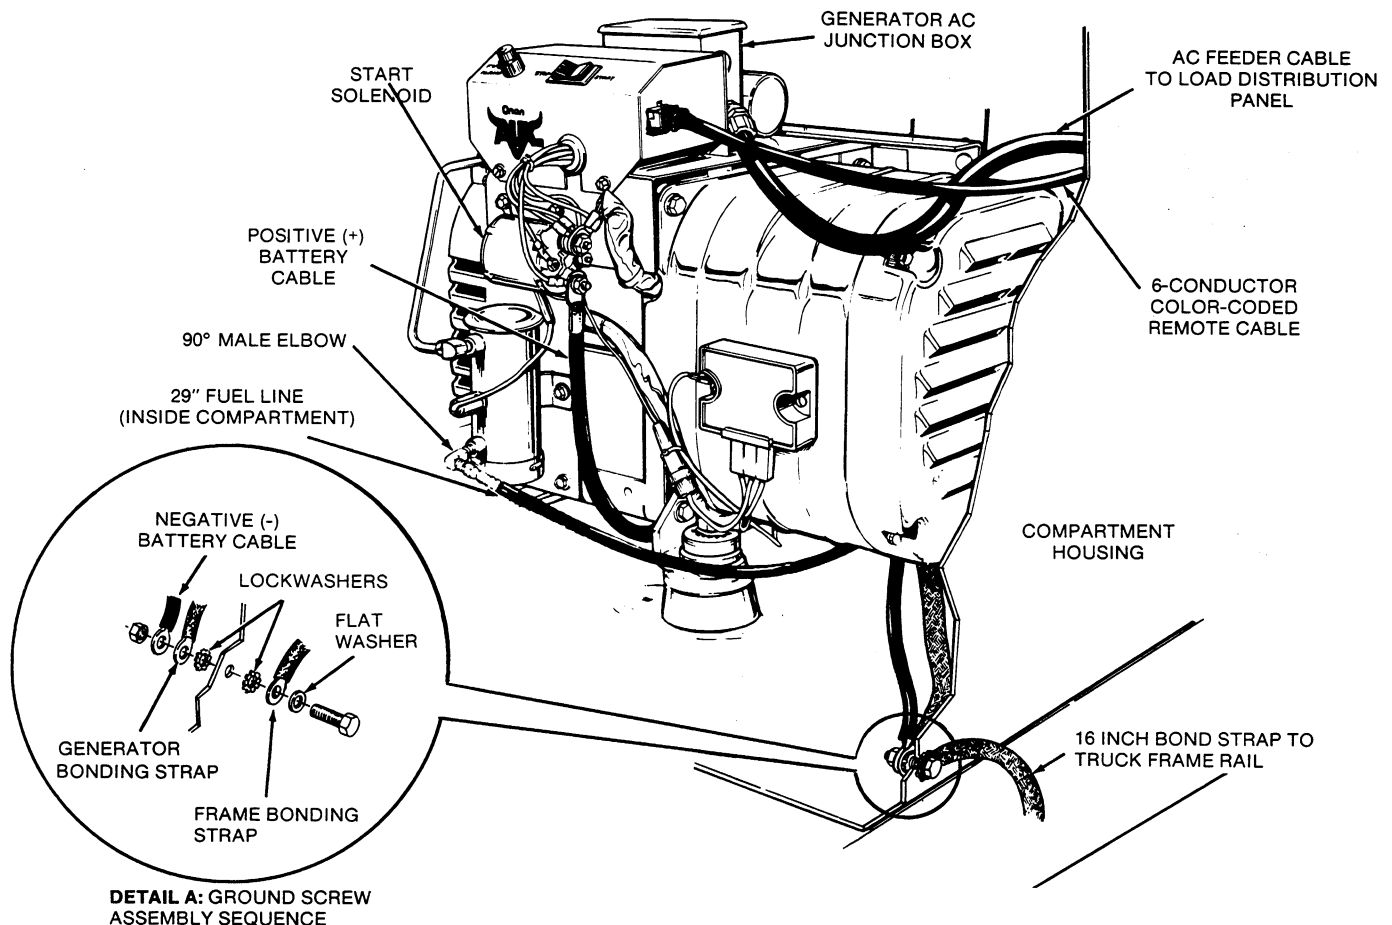

FIGURE 15. BATTERY AND GROUND CABLE CONNECTIONS FOR OVER-THE-RAIL MOUNTED INSTALLATIONS ONLY
2. Connect the negative battery cable, generator set ground strap and housing-to-truck frame electrical bonding strap to the same location on the side of the compartment (generator end) as shown in the assembly sequence in Figure 15. Assemble mounting hardware and all three cable terminals as shown in Figure 15, detail A. Mounting hardware is supplied in accessory package. Opposite end of 16 inch truck electrical bonding strap must